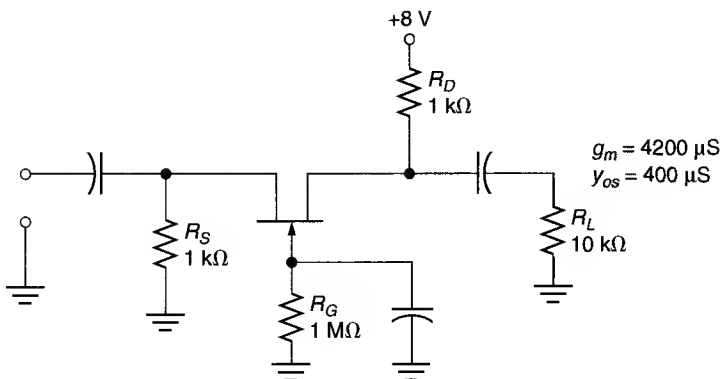

FIGURE 12.70
43. Determine the ranges of A_v , Z_{in} , and Z_{out} for the circuit shown in Figure 12.70.